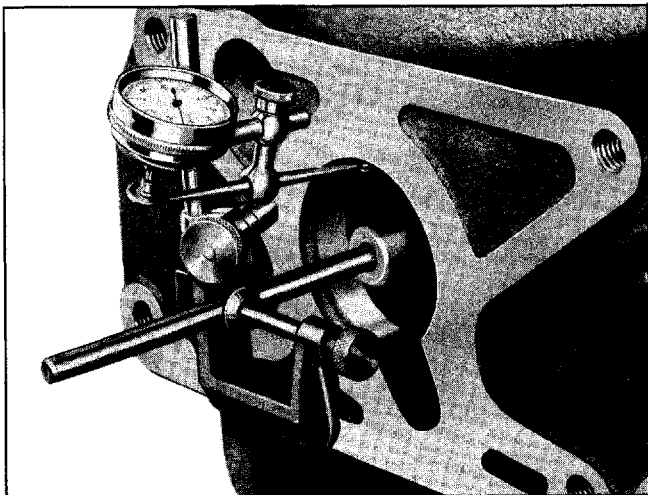

Fig. 7-32 Dial Indicator in Place to Check Housing Hole
2. Install alignment checking tool J-5128 and install dial indicator on stem of checking tool. Arrange hole attachment of dial indicator so its forward tip contacts inside diameter of pilot hole in flywheel housing (which front transmission bearing enters when transmission is in place) as shown in Fig. 7-32.